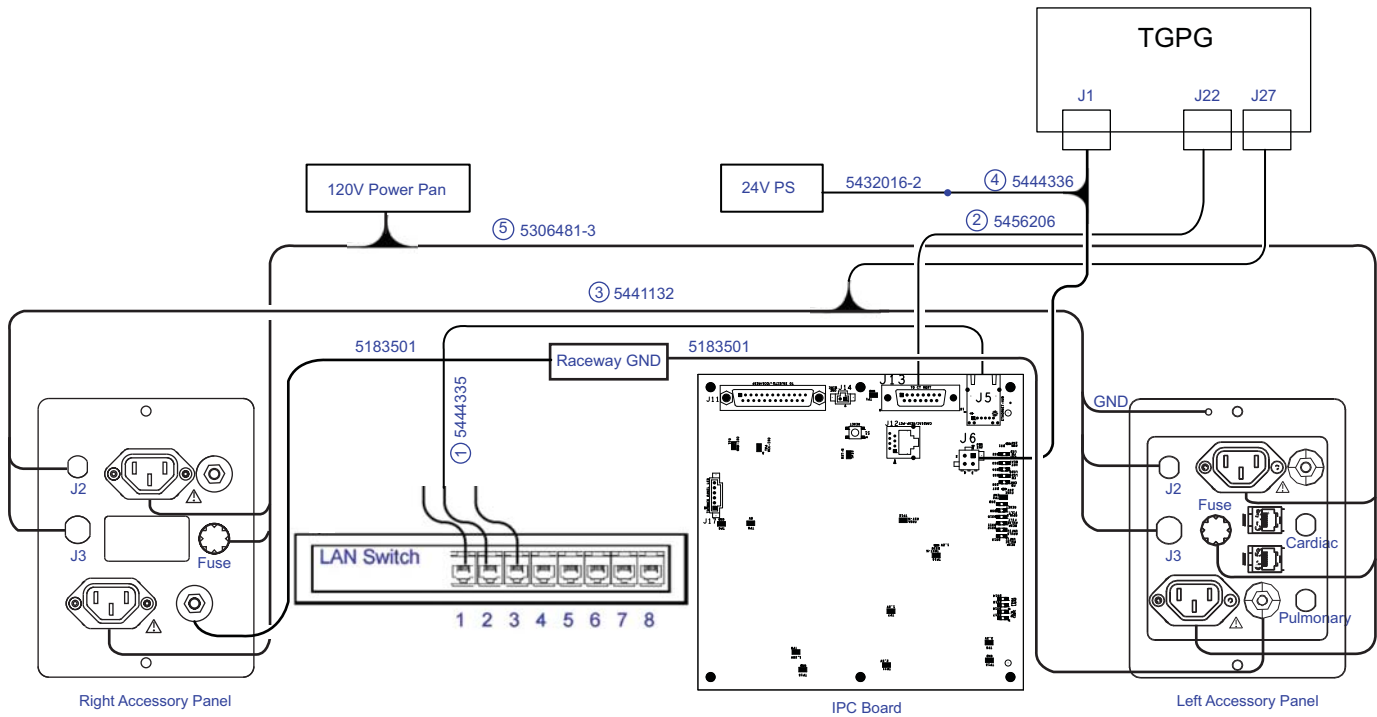
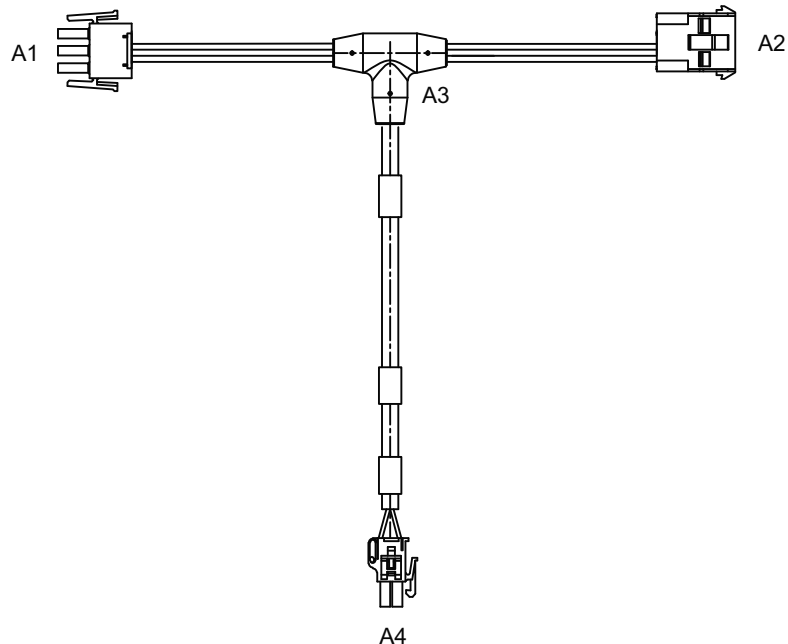
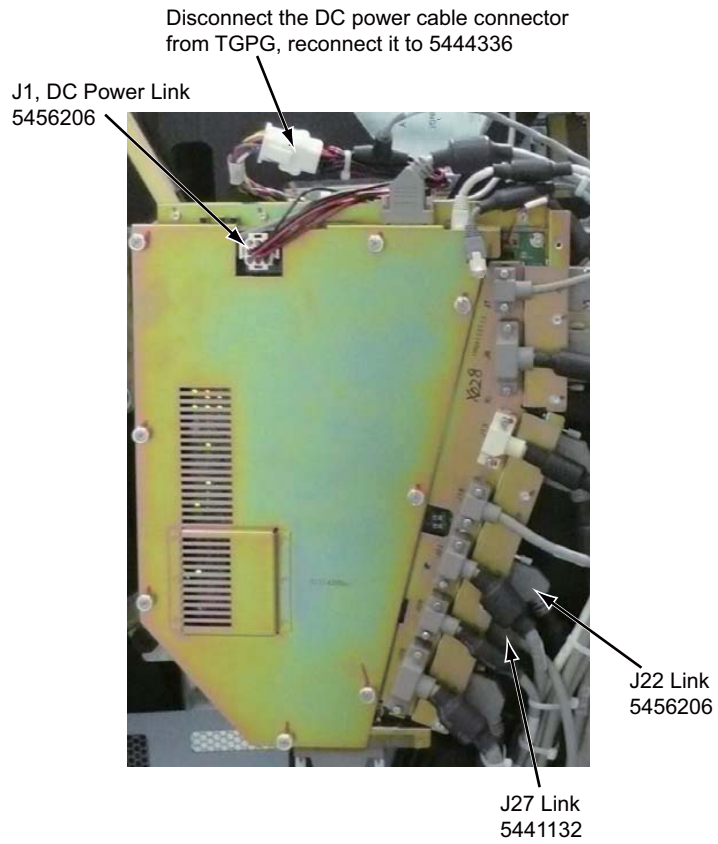

Figure 2-10 IPC Harness Assembly (5316429-3) Connection
Figure 2-11 IPC Power Cable (5444336)
Figure 2-13 TGPG Connection
- 3.) Connect the Cardiac/Pulmonary Pathfinder cable (5456206) between the IPC board J13 and the TGPG J22. (See Figure 2-10 and Figure 2-13)
- 4.) Connect the Smart Step cable (5441132) between the TGPG J27 and the Left/Right Accessory Panel. (See Figure 2-10 and Figure 2-13)
- b.) Disconnect the 24V power cable (5432016-2) connector from the TGPG board J1 and connect it to the IPC power cable (5444336) A2. (See Figure 2-11 and Figure 2-13)
- c.) Connect the IPC power cable (5444336) A1 connector to the TGPG board J1. (See Figure 2-13)
- 6.) Connect the ground cables (5183501) between the Left/Right Accessory Panel and the gantry raceway. (See Figure 2-10)